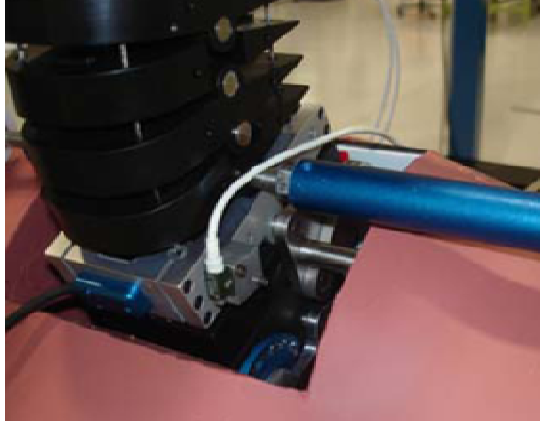

Figure 6 - X Accelerometer at T1
- Install an “X” axis accelerometer to the T1 load cell shown in Figure 6.